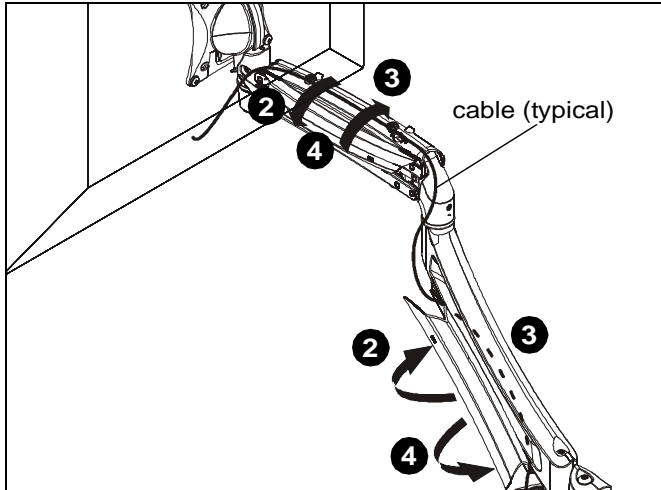

Figure 21
3. Route cables through cable management channels. (See Figure 21)
4. Close cable management covers on monitor arm. (See Figure 21)